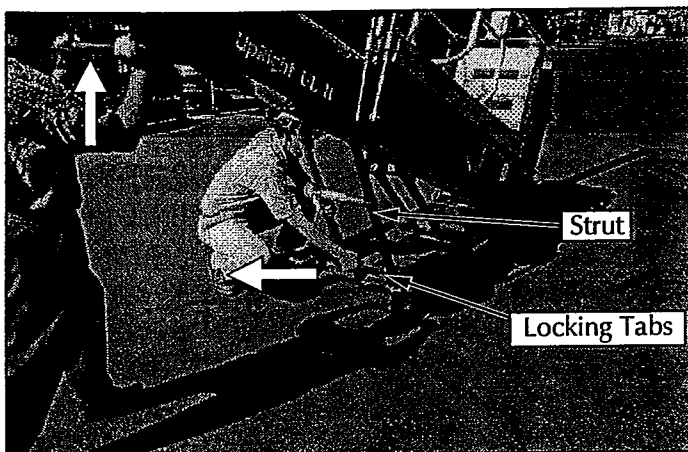

Figure 3-17: Releasing the Strut
3. While another person lifts up slightly on the upper handle bars, release the strut from the locking tabs by pulling on the cable connecting the two locking pins (fig. 3-17).